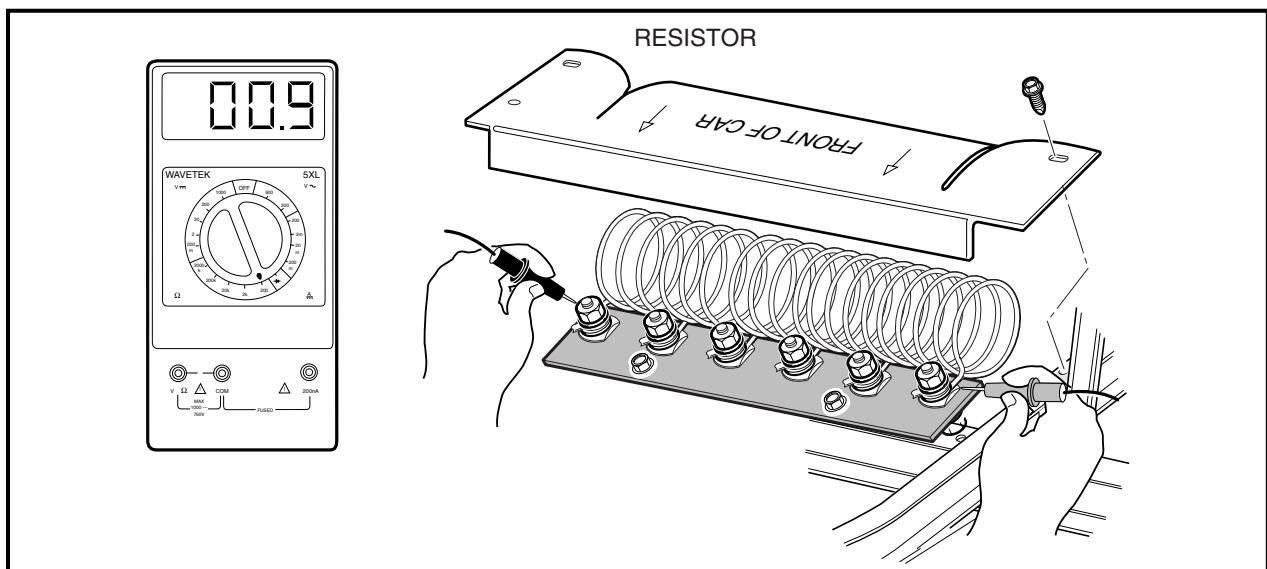

Figure 11-10 Resistor Test
2. If there are no problems, place the red (+) probe of the multimeter (set to 200  $\Omega$ ) on the first resistor connection, and place the black (–) probe on the last resistor connection. The reading should be continuity or approximately 0.9  $\Omega$  (ohms) (**Figure 11-10, Page 11-11**).